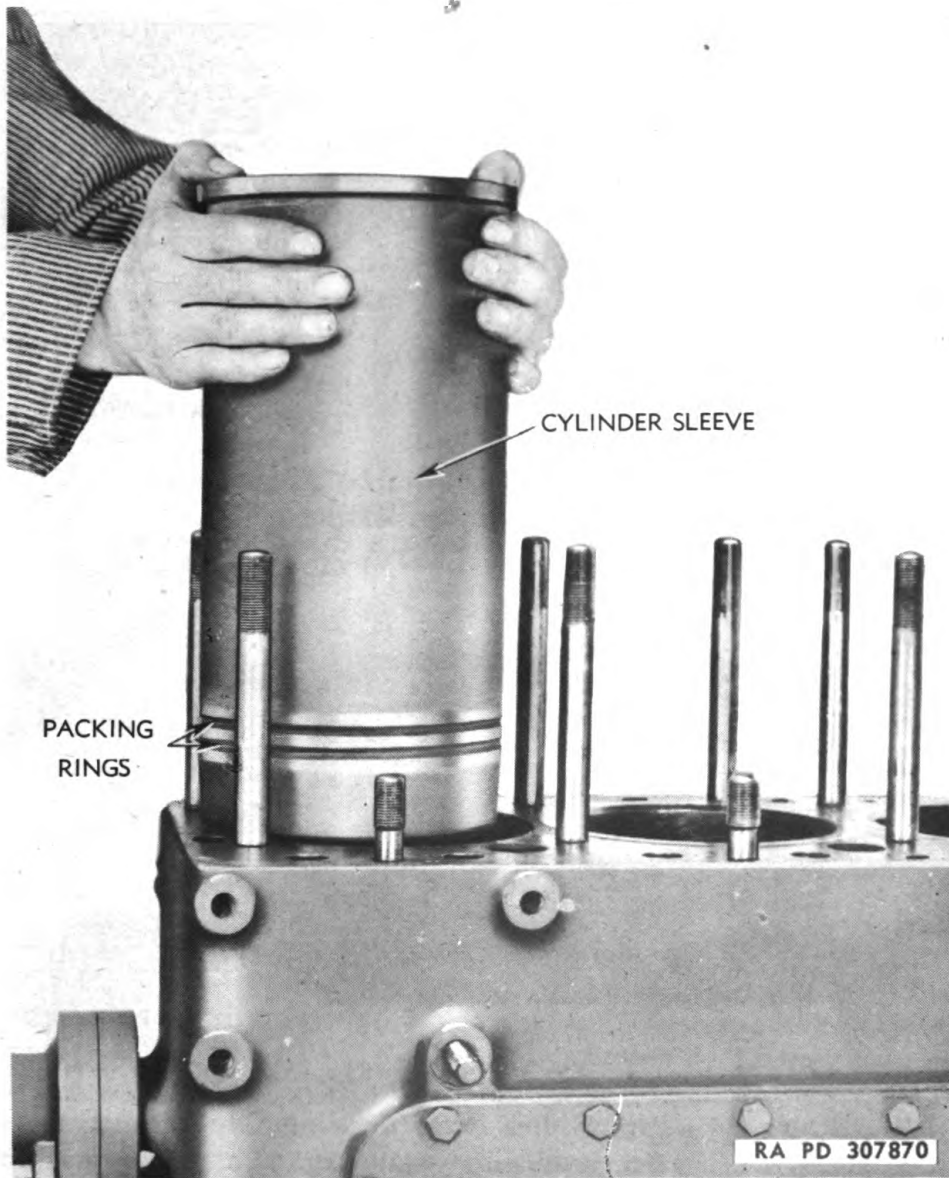

Figure 64 — Installing Cylinder Sleeve
a. Install Cylinder Sleeves (fig. 64). Make sure grooves in lower ends of sleeves for packing rings are clean, then install the two pack-